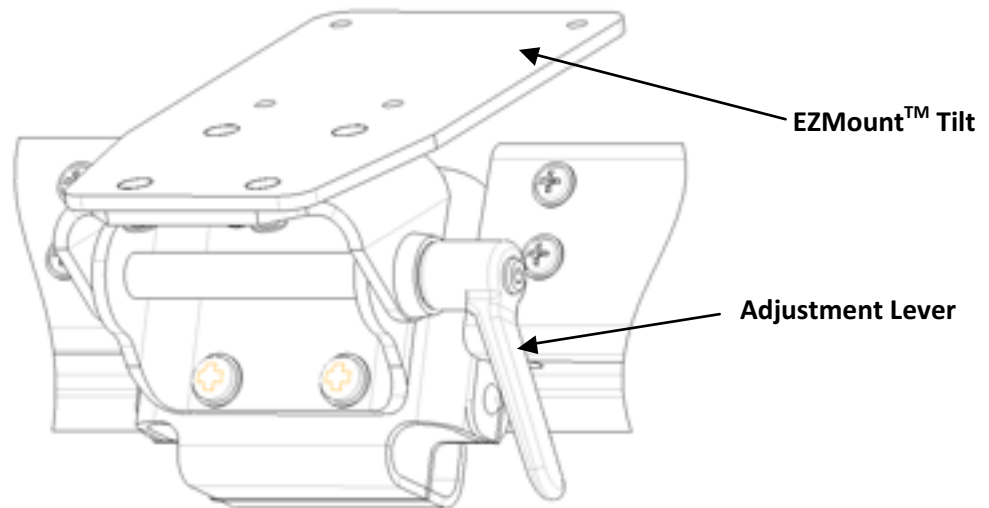

FIGURE 1 - CAPTAIN SIDE WINDOW MODIFIED WITH EZMOUNT™ TILT
- » The EZMount™ Tilt is attached to the mounting bracket (see Figure 1).